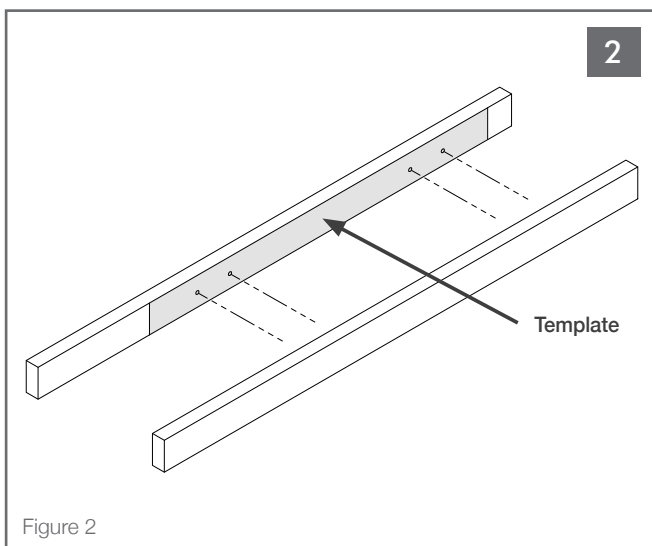

Figure 2
Place the subwoofer mounting template on the side of a 2 x 4 stud or joist and drill four 1/4" (6mm) holes through the stud at the locations shown on the mounting template. (See Figure 2).
**NOTE: DRILLING FROM THE INSIDE OF THE STUD BAY IS RECOMMENDED TO ENSURE THAT THE HOLE LOCATIONS MATCH THE SUBWOOFER SCREW LOCATIONS. (SEE FIGURE 2)**